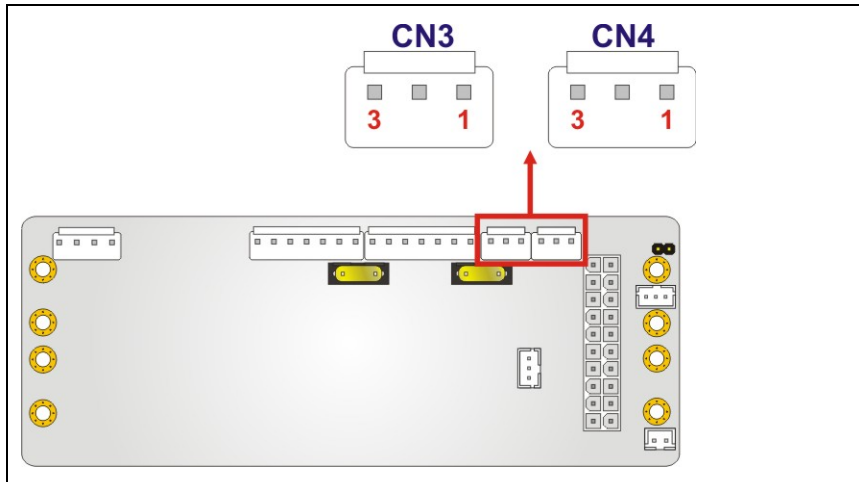

Figure 4-8: Output Power Connector Locations
- CN Location:** See Figure 4-8